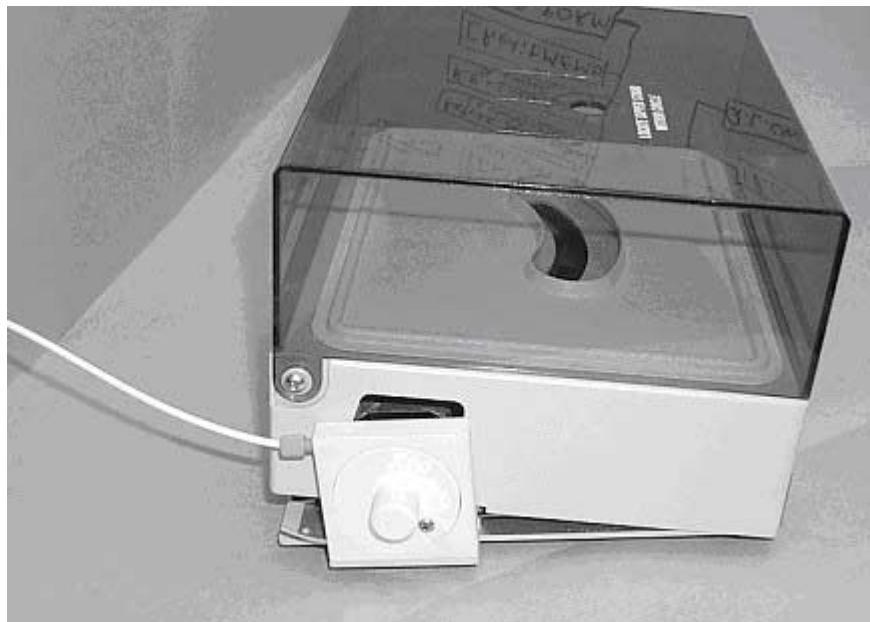

Figure 1-6. View of the back of the unit partially removed.
5. Lift up on the back of the unit while pulling it forward slightly to remove top hood. See Figure 1-6.